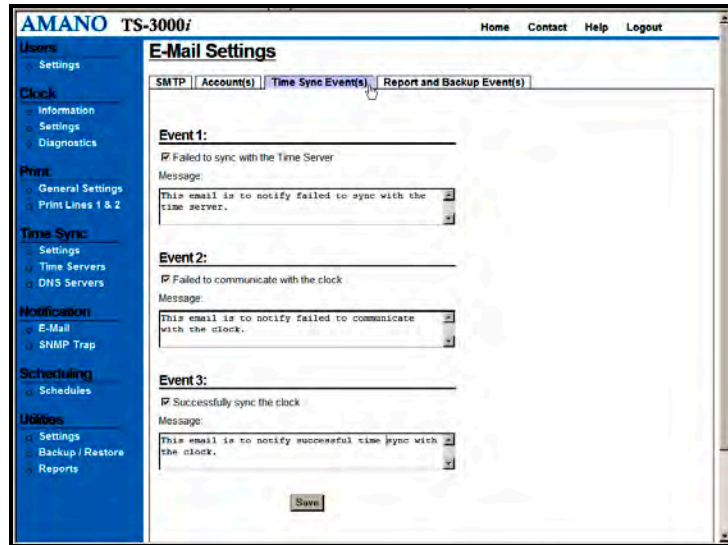

Figure 4-17. E-Mail Settings for Time Sync Events.
- Step 10. Click on the **Time Sync Event(s)** tab and the E-Mail Settings screen to select event(s) for email notification will appear (see *Figure 4-17*).